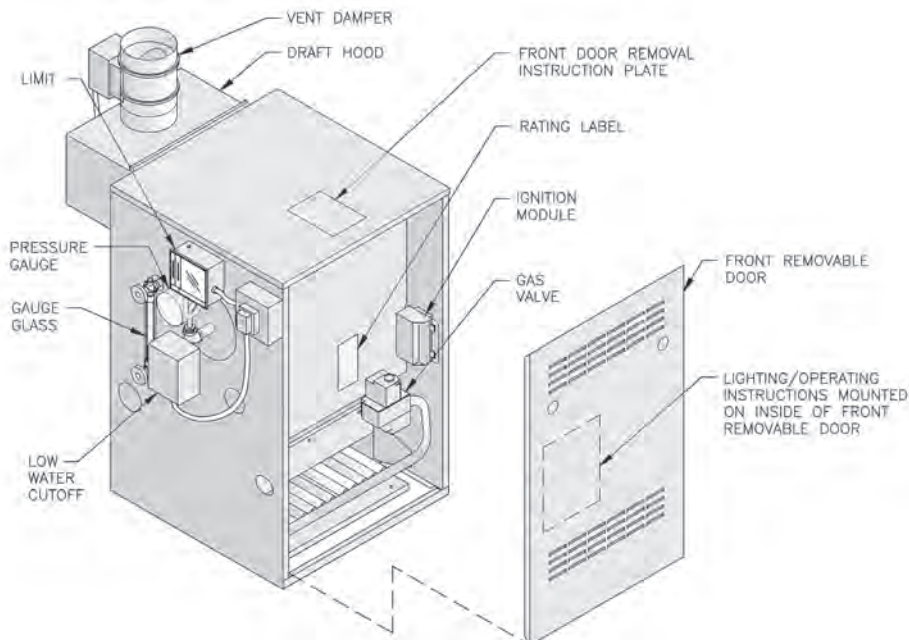
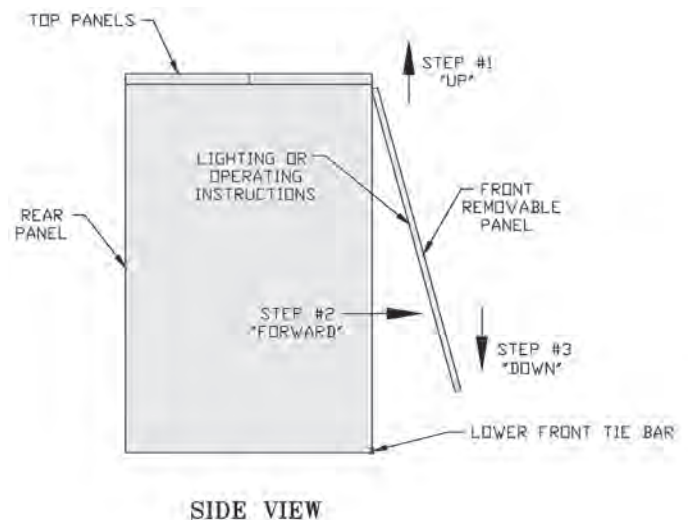

Figure 1: Control Locations
Figure 3: Jacket Front Panel Removal
Steam See Figure 1. Maximum allowable pressure is 15 psi. Steam pressure can be read on the Pressure Gauge.
Steam (standard equipment). See Figure 1. The lowest permissible operating level is indicated on a plate adjacent to the gauge glass. The low water cutoff automatically resets when water returns to its normal level. Boiler operation resumes with a call for heat.
5. **Continuous Ignition System (Standing Pilot)** See Figure 1. The Continuous Ignition System consists of:
6. **Intermittent Ignition System** See Figure 1. The Electronic Ignition (EI) System consists of:
B. Instructions to place boiler in operation and to turn off boiler are shown on the Lighting or Operating Instruction label posted on the inside of the front removable door. See Figure 3 for front door removal instructions. The Lighting/Operating Instructions are also shown in Figures 4, 5, 6, 7 and 8. The boiler model number is printed on the rating label (see Figure 1).